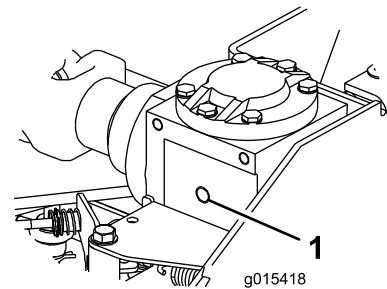

Figure 12
2. Remove the plug from the gearbox fill hole and check the oil level (Figure 12).